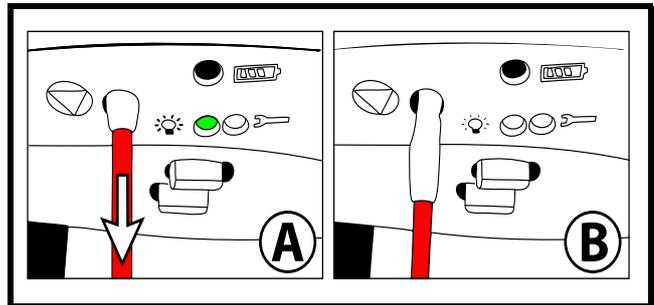

Fig. 11
- 1) To stop the lift in any emergency, gently pull the red emergency cord until you hear a “click” (see Fig. 11 - A). You will notice that:
- The reset switch’s plastic insert, at the very top of the red cord, has descended (see Fig. 11 - B);